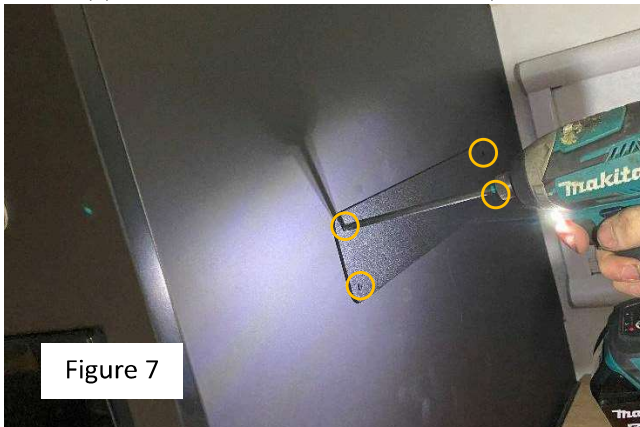

Figure 7
10. Remove 4 Philips screws holding Upper Electrical Cabinet Cover Plate and set aside (Figure 7)